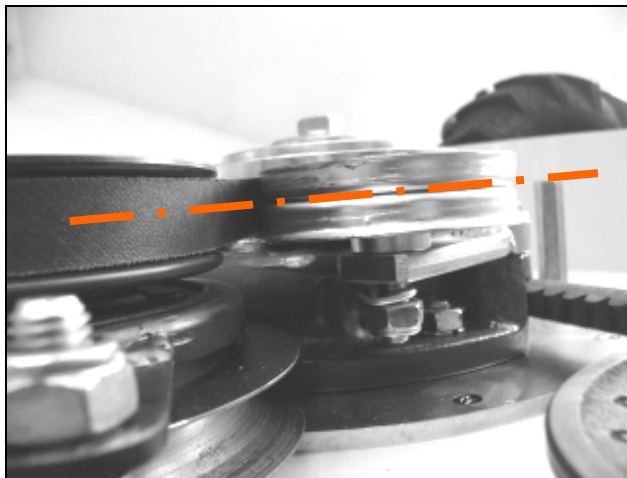

Fig. 57
- Check that the belt is in the centre of the tension pulley (Fig. 57)